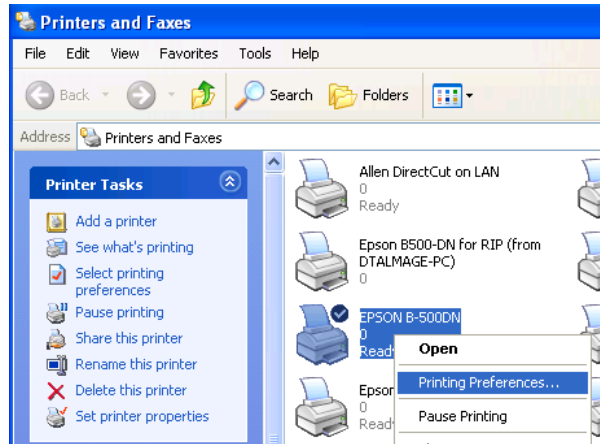
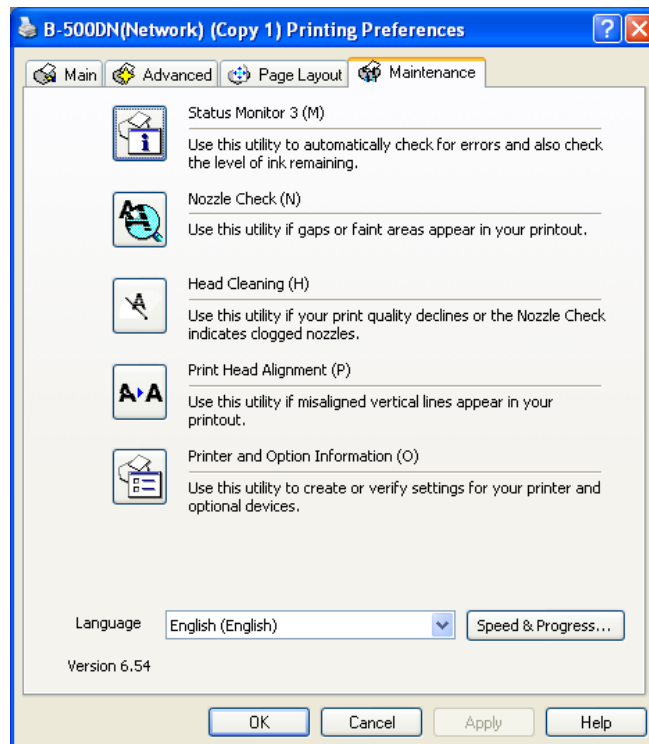
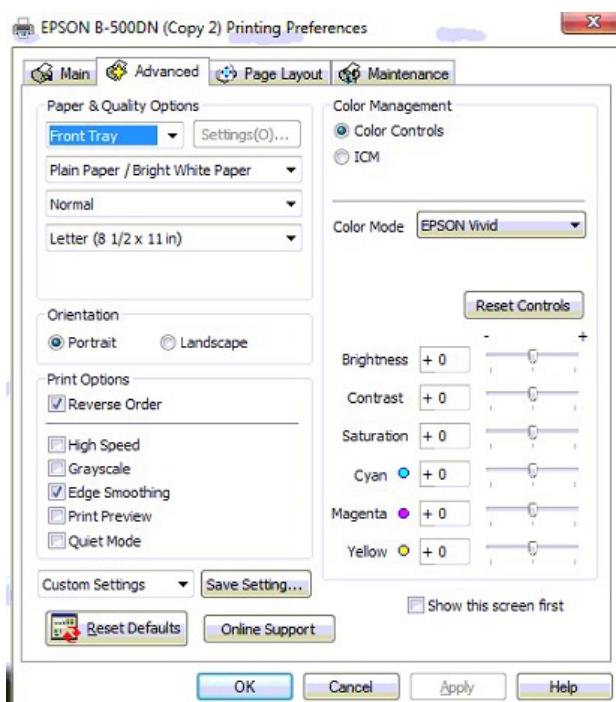

fig.1
fig. 2
fig. 3
3. Click on Start > control panel > printer and faxes or printers > Right click on the b500dn printer and select printing preferences (fig. 1).
Then go to Maintenance tab and select Nozzle Check (fig. 2).
If you find that your printouts are unexpectedly faint or have gaps in them, you may be able to solve these problems by cleaning the print head, which ensures that the nozzles are delivering ink properly. You can clean the print head from your computer using the Head Cleaning utility in the printer driver or by going to printing preferences (fig.1) and then going to Maintenance tab (fig. 2) and selecting Head Cleaning.
Click on Start > control panel > printer and faxes or printers > right click on the b500dn printer and select printing preferences (fig. 1). Then go to Advanced tab (fig. 3).
Set preferences as shown in fig. 3.